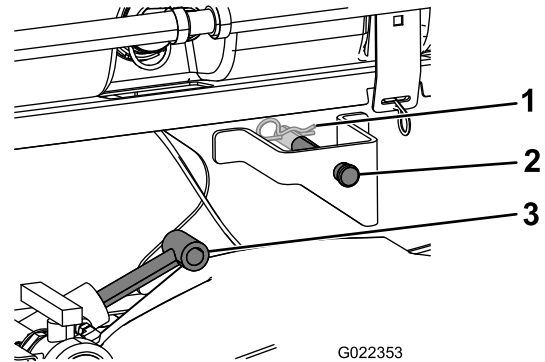

Figure 9
3. Extend the lift cylinders to the brackets on the tank skid, and align the cylinder fittings with the holes in the tank skid brackets (Figure 9).